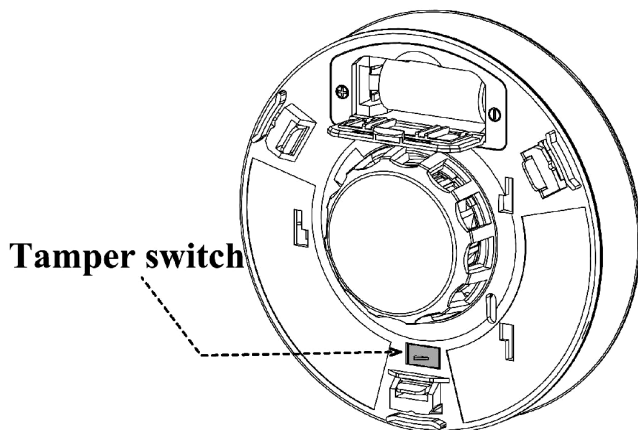

Figure 11: Tamper switch location
TAMPER ALARM: When the detector is removed from its Mounting Bracket, the tamper switch is opened, sounding the tamper alarm. The tamper switch location is shown in **Figure 11**. The tamper alarm pattern is two (2) long alarm beeps with two (2) corresponding yellow LED flashes. **WARNING:** For 5 minutes after the unit is powered (e.g. after a battery installation or change), a tamper warning will not sound and the transmitter will not send a tamper signal to the supervised receiver. After this initial 5 minutes the tamper warning will